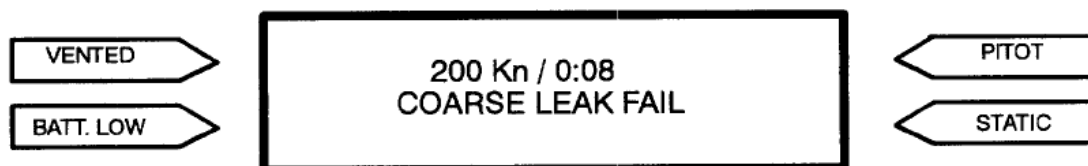

Figure 15 Coarse Leak Check
- S. Following the settling period, and before entering the checking period, the PSLT carries out a coarse leak check. If system pressure drops by 33% or more from the Set Point during this time, the leak check is halted and the screen displays a 'COARSE LEAK FAIL.' caption, together with the failure rate (*Figure 15*). This screen will continue to be displayed until accepted by the Operator. This may be in one of several ways. If the failure is due to something simple like a poor hose connection then, once rectified, the Operator can press either the START key to return to the beginning of the test, or the SEL key to continue the test from the point of failure. To abort the test completely, the STOP key is pressed as normal.